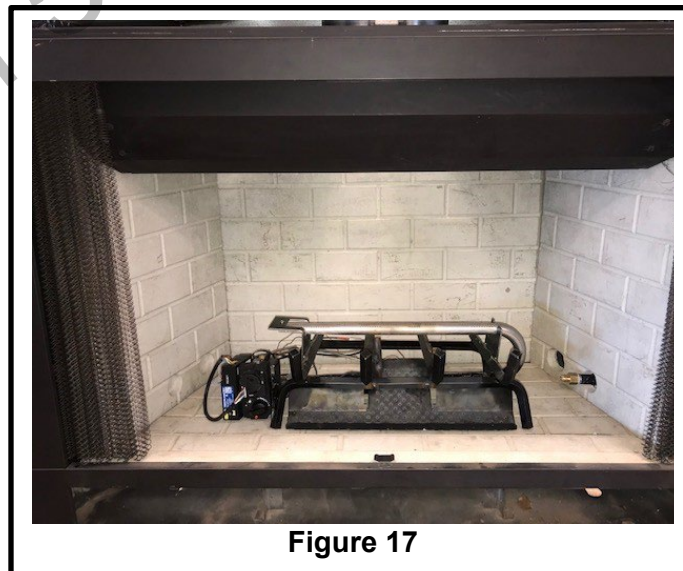

Figure 17
6. Place the burner system in the fireplace. Centering the burner front to back & side to side as shown in Figure 17.